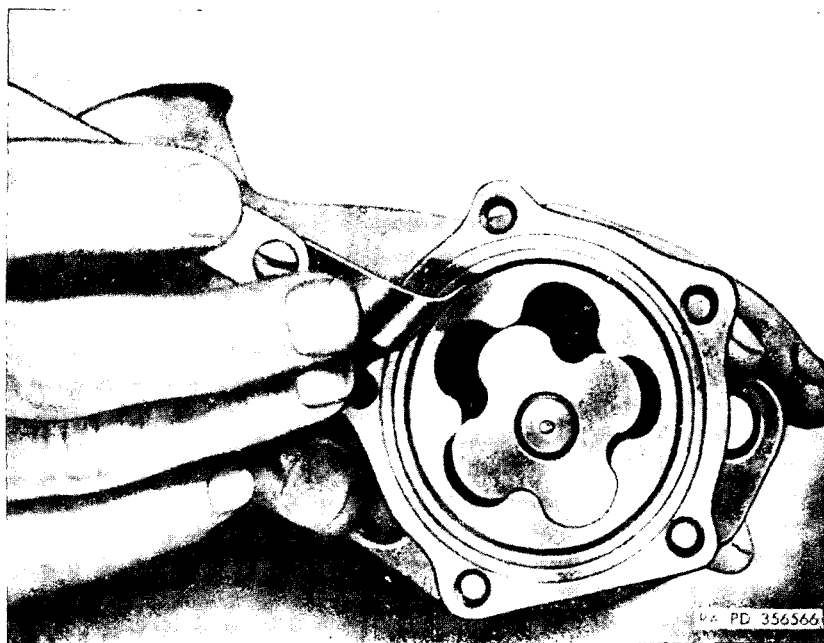

Figure 73. Checking clearance between outer rotor and body.
e. Measuring Clearance Between Outer Rotor and Body (fig. 73). To determine the clearance between the outer rotor and body, insert a feeler gage between the outer rotor and body. If this clearance is more than 0.012 inch, replace pump body only after measuring diameter and thickness of the outer rotor as described in *f* below.